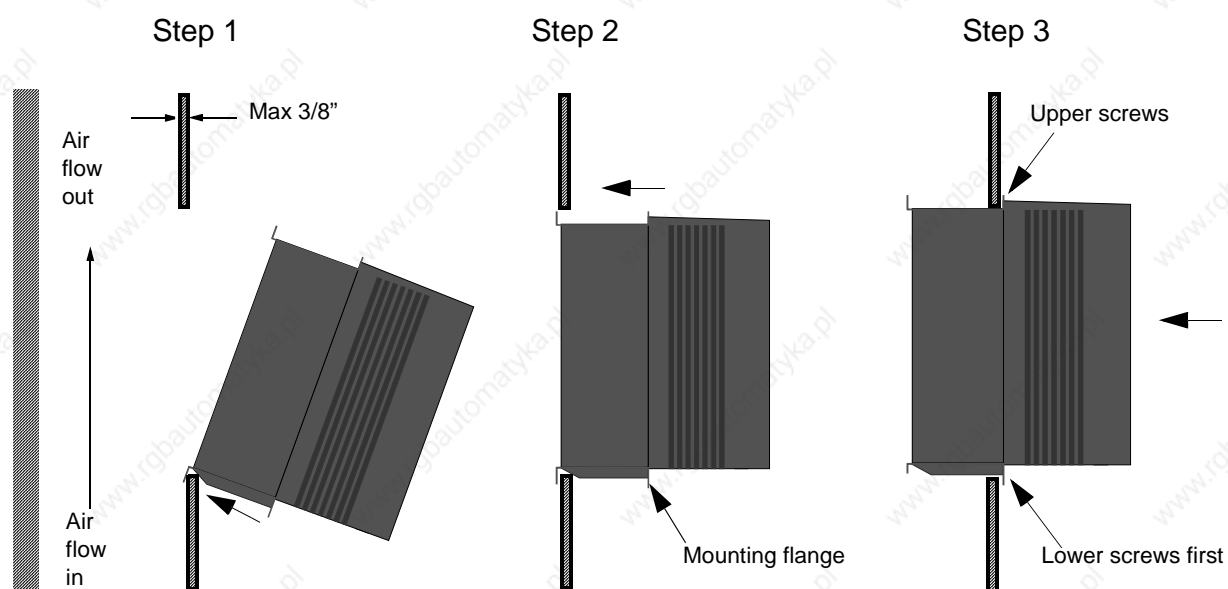

Figure 2-2 Installation procedure of the ACx 601 in a cooling air duct.
6. Follow the installation procedure in Figure 2-2.